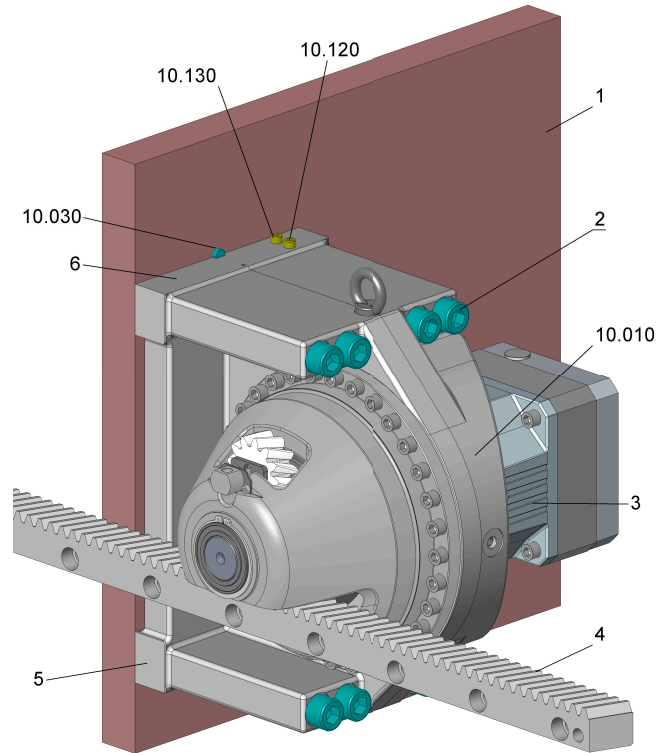
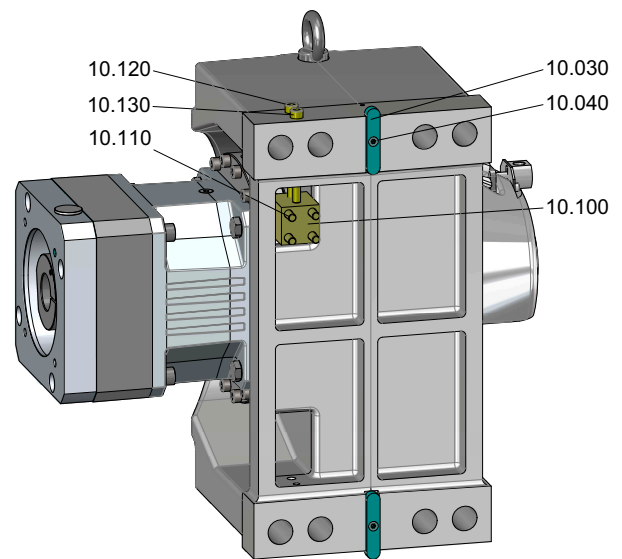

Fig. 2-1 Installation of the mounting bracket
Fig. 2-2 Installing the Adjustment block (optional)
**Follow these steps to install the gear unit with the mounting bracket on the machine (see also Fig. 2-1 and Fig. 2-2):**